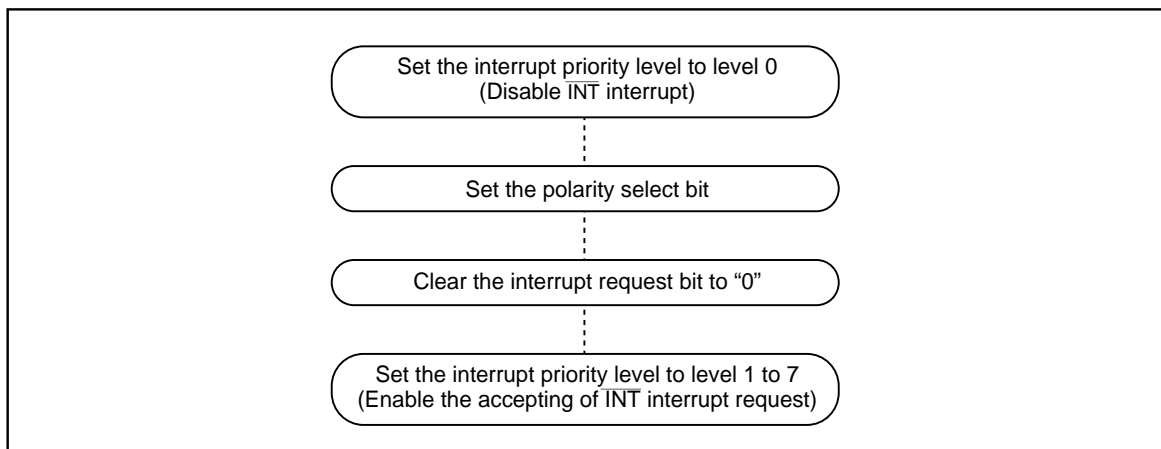

Figure 27.2 Switching condition of $\overline{\text{INT}}$ interrupt request
- When the polarity of the INT0 to INT5 pins is changed, the interrupt request bit is sometimes set to “1”. After changing the polarity, set the interrupt request bit to “0”. Figure 27.2 shows the procedure for changing the $\overline{\text{INT}}$ interrupt generate factor.